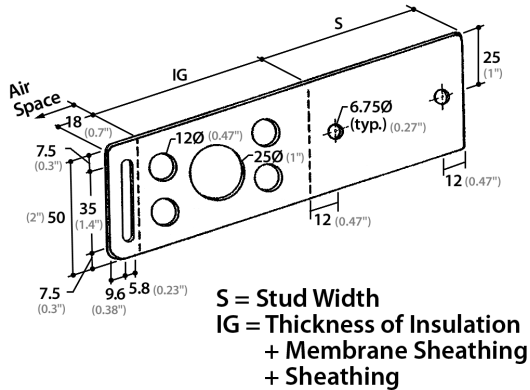
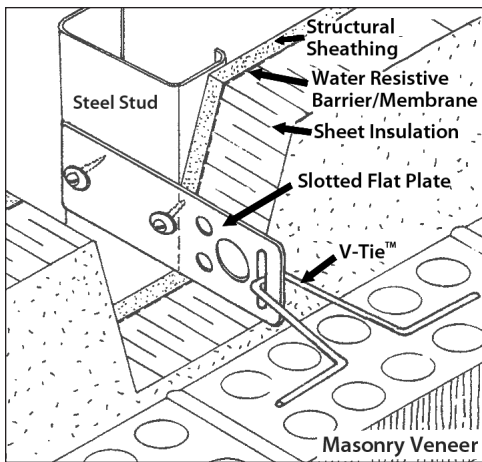

Figure 1 Slotted Flat-Plate
Figure 4
The Slotted Side Mounting Rap-Tie system (Rod Adjustable Plate Tie system) consists of a Plate (a vertically orientated, flat plate), a V-Tie™ (a V-shaped wire), and an Insulation Support (optional, but recommended). These individual components are shown in Figures 1, 2 and 3, respectively. The installed tie system is shown in the Cover Illustration and Figure 4.
Tensile and compressive lateral loads applied to the masonry veneer are transferred through the V-Tie™ to the Slotted Flat-Plate, which is fastened directly to the structural backing without any intervening material such as sheathing. The Flat-Plate is fastened to the side surface of a structural backing member such as a steel stud web, wood stud, or miscellaneous steel (see Cover illustration, and Figure 4). The vertical slot along the outboard end of the Slotted Flat-Plate, through which the V-Tie™ is inserted, provides a positive connection without the possibility of V-Tie™ disengagement during construction and in-service (in accordance with requirements in CSA A370, "Connectors for Masonry" and ACI 530/ASCE 5/TMS 402, "Building Code Requirements for Masonry Structures"). The slot permits up to 30 mm (1.2") of in-situ vertical adjustment so that a bed joint in the masonry veneer will always be coincident with the V-Tie™ regardless of the vertical placement of the Flat-Plate along the supporting structural member. The vertical slot also accommodates vertical differential movement between the masonry veneer and the structural backing.
**Flat-Plate:** The Flat-Plate (Figure 1) is manufactured from 16 gauge sheet steel (1.367 mm [0.0538"] minimum base steel thickness) and is available in both hot-dip galvanized finish and stainless steel. The weight of hot-dip galvanized finish is not less than 460 g/m2/side (1.5 oz/ft.2/side), and satisfies the requirements of CSA A370 (which references ASTM A123), ACI 530.1/ASCE 6/TMS 602 (which references ASTM A153, Class B) and the International Codes (which reference ASTM A153, Class B). The incorporation of holes through the mid-body of the Plate minimizes thermal conductivity through the tie system.
The Insulation Support is a standard component of the system, but it is optional where the insulation is otherwise supported, and not required where no insulation is placed within the cavity. Figure 4 shows the system without the Insulation Support.